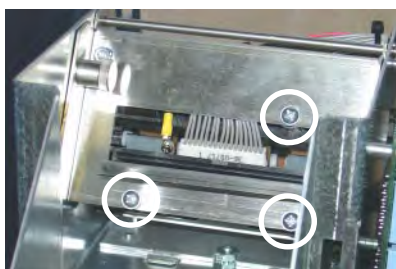

Figure 3-24. Remove the three screws highlighted in this photograph.
8. Close and lock the printer in its operating position. Remove the three screws shown in Figure 3-24.